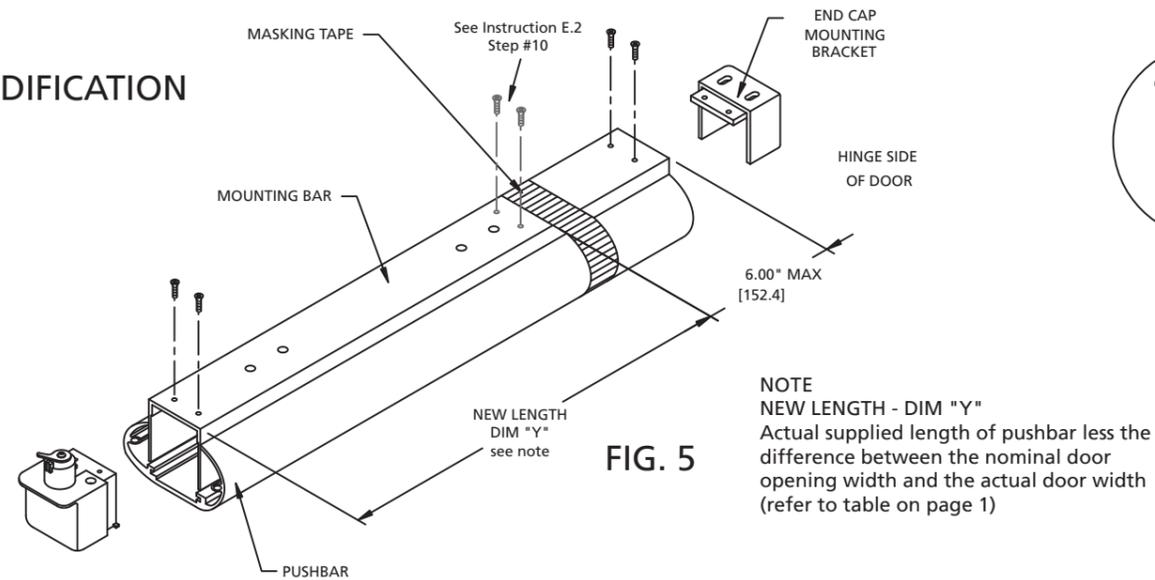

FIG. 5
E.2 ADJUSTMENT OF BAR LENGTH FOR NON-STANDARD DOOR WIDTHS (Fig. 5):
4. Determine the new bar length (dimension "Y") as per note in Fig. 5.